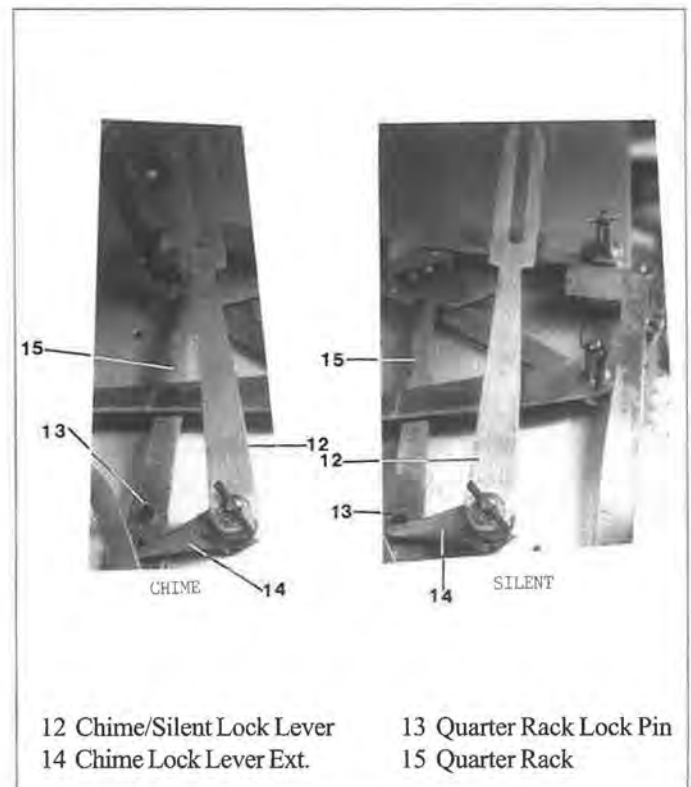

Figure 36.3. Chime/Silent Lock Lever
37.8.3. Place the chime/silent lock lever (12) (Figure 36.3) in the locked position.
37.10.1. Guide the actuator pins (2) and (5) into the slots of both lock levers (chime (12) Figure 36.3; strike (16) Figure 33.5, *Horological Times*, June 1998, page 39).